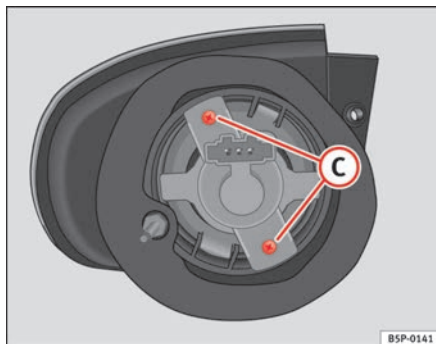

Fig. 192 Indicator lights
- Unscrew the bolts ⇒ page 260, fig. 192 **C** from the lamp holder and pull on this.
- Unscrew the bolts ⇒ fig. 192 C from the lamp holder and pull on this.